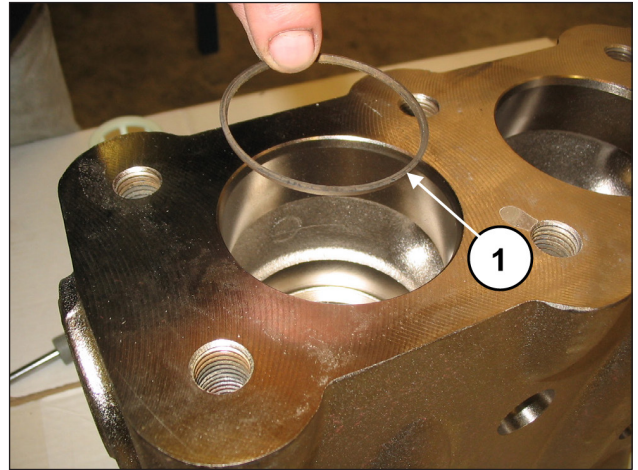

Fig. 119
Insert the anti-extrusion ring, exploded view pos. 4 (pos. ①, Fig. 119).